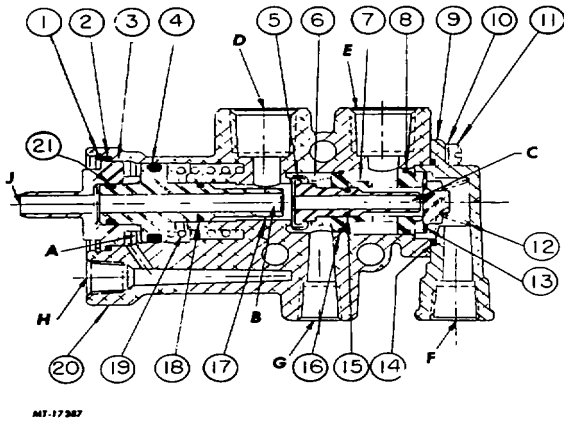

Fig. 2 Tractor Protection Valve
Fig. 2 illustrates the tractor protection valve in the closed position for operating a tractor without a trailer (bobtailed). Refer to Fig. 2 for numbers and letters in parenthesis.
Install pipe plugs in any threaded ports not shown or labeled by Fig. 2.
Refer to Fig. 2 for numbers in parenthesis.
Install O-ring (15), valve seal and retainer washer to make exhaust valve assembly (5). Install assembly (5) into valve body (20). Install spring (6) with large end against exhaust valve retainer. Install O-rings (8) and (16) on spool (7) and O-ring (14) on end cover (9). Place spool on spring (6) with spool seat facing out. Place spring (12) and rubber valve (13) on top of spool (refer to Fig. 2 to see position of valve to spring). Align end cover (9) to valve (13) and body (20). Push gently and firmly to compress spring (6) until cover contacts spool. Continue pressing spool into body. Hold end cap and install four washers (10) and screws (11). Tighten screws to 6-7 N•m (50-60 in lbs) torque.